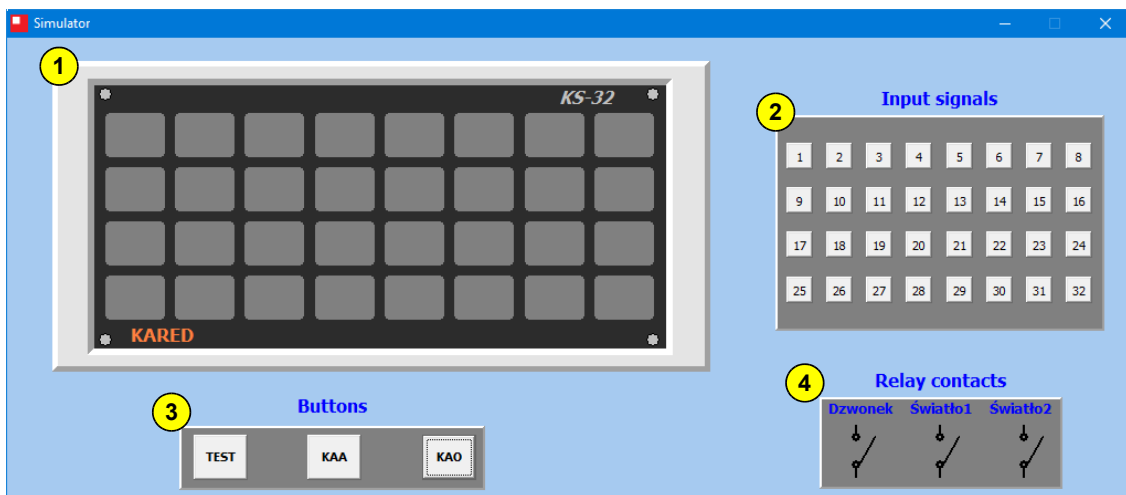

Fig. 8. Simulator Window
To access the simulator window (Fig. 8), press button (5) in Fig. 7.